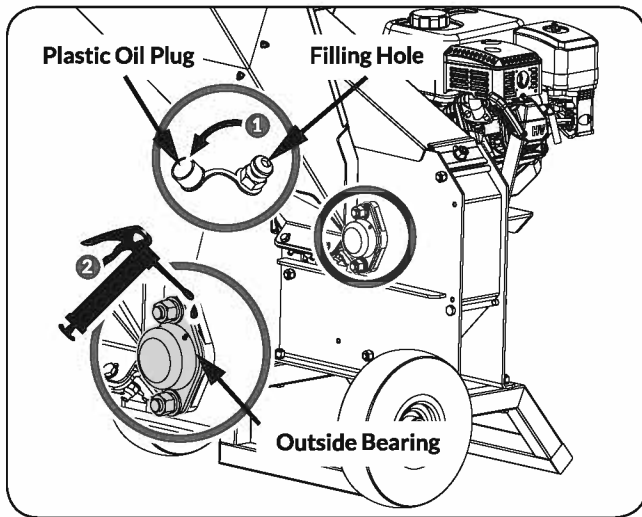

Figure 10
2. Grease the outside bearing through the filling hole. (See **Figure 10**)